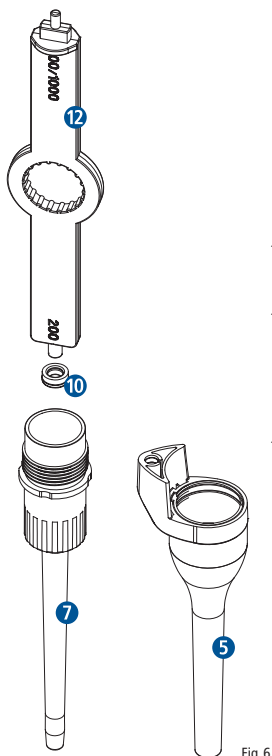

Fig. 6
- Remove the sealing ring **10** from the tip cone using the auxiliary tool (Fig. 6) and replace it (see section 8 Ordering Information for replacement sealing ring).